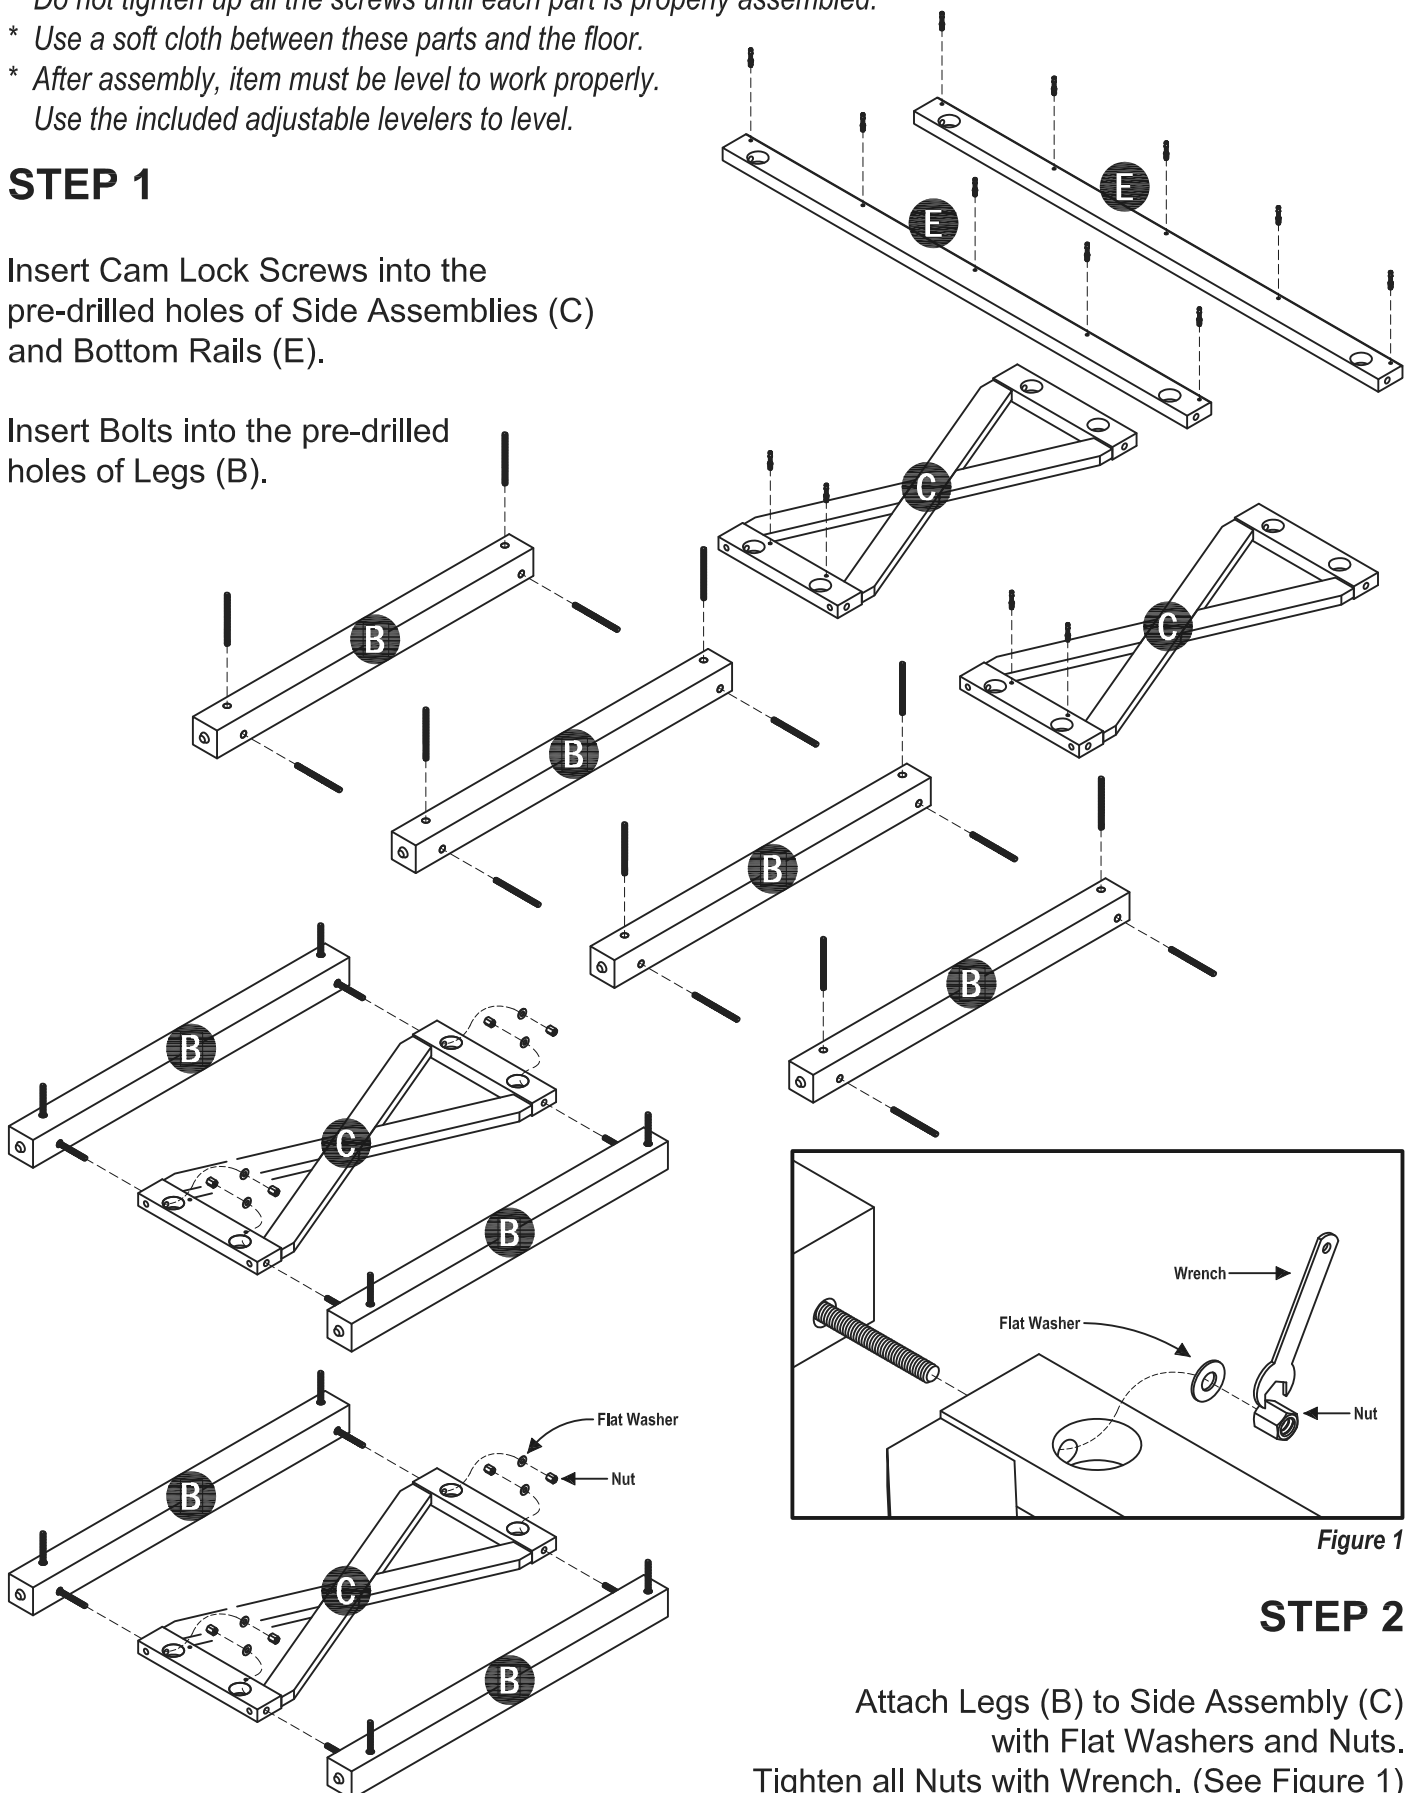

Figure 1
Attach Legs (B) to Side Assembly (C) with Flat Washers and Nuts. Tighten all Nuts with Wrench. (See Figure 1)